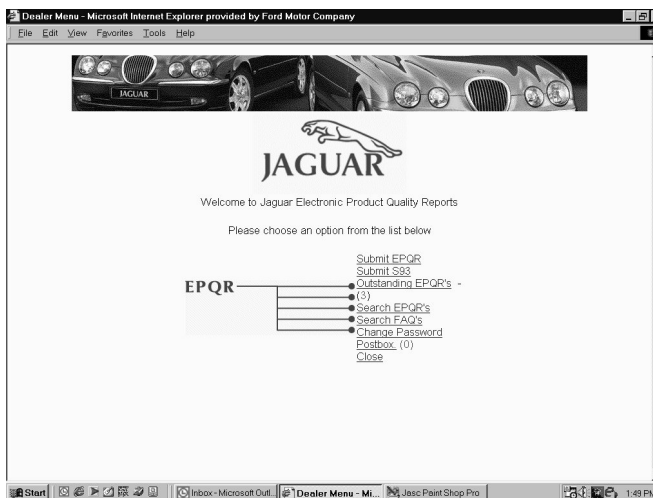

Fig. 1 Jaguar Cars EPQR home page
The EPQR system is a quick and easy way for the dealers to report vehicle quality concerns directly to Jaguar Cars North America Product Investigation (PI) department and Jaguar Cars Limited (JCL) engineering groups. All Jaguar dealers have access to a web site (Fig. 1) where the EPQRs and OBD-II reports (S93) can be electronically submitted.